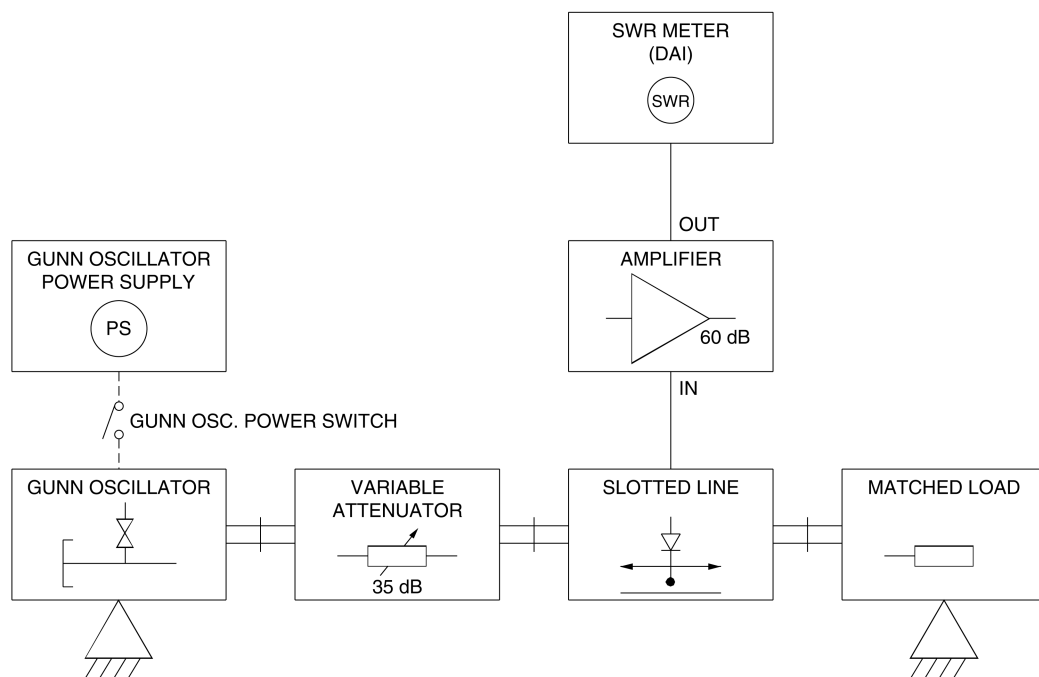

Figure 11. Modified microwave circuit to plot the standing-wave pattern with a matched load.
- ☐ 20. **Taking care not to modify the adjustment of the Variable Attenuator and Slotted Line's probe**, modify your microwave circuit in order to obtain the circuit shown in Figure 11.